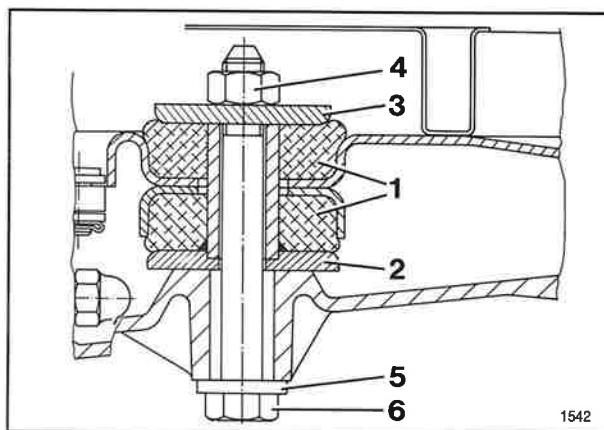
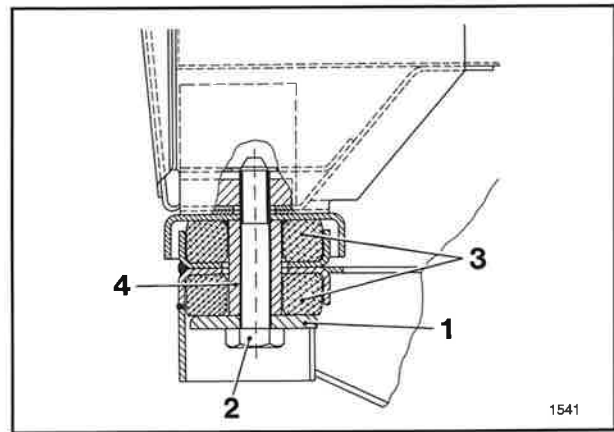

Fig. 24
Fig. 25
- 38 Tighten cap nuts (22) as well as cap nut (23/1) and hexagon screw (23/2) to 80 Nm. Back up upper and lower anchor bolts. For tightening cap nut (23/1) and hexagon screw (23/2) use spanner socket size 19 (23/3) special tool pos. no. 905.0.15.003.1.
- 39 Again stick on or press on insulating mat (17) to distance piece.
- 41 Smear fastening screws of body supports with Loctite Anti-seize and place body supports at towing flange acc. to fig. 24 (if it is necessary lift up platform or body resp. a little bit) and at cross member acc. to fig. 25 but do not tighten yet.